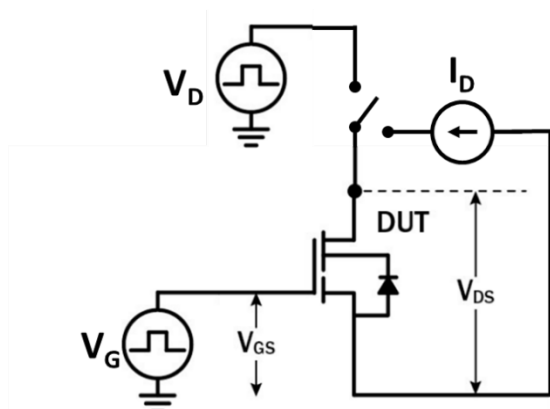
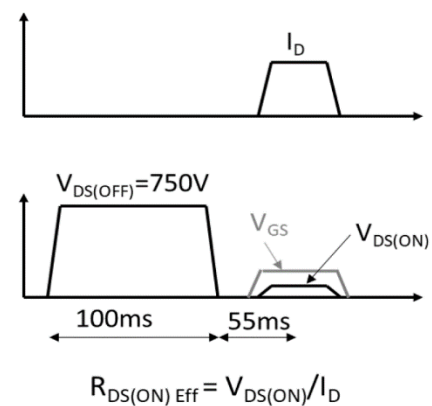

Figure 21. Dynamic $R_{DS(on)eff}$ Test Circuit
Figure 22. Dynamic $R_{DS(on)eff}$ Waveform
1. Dynamic $R_{DS(on)}$, 100% tested; see Figure 21 and Figure 22 for conditions.